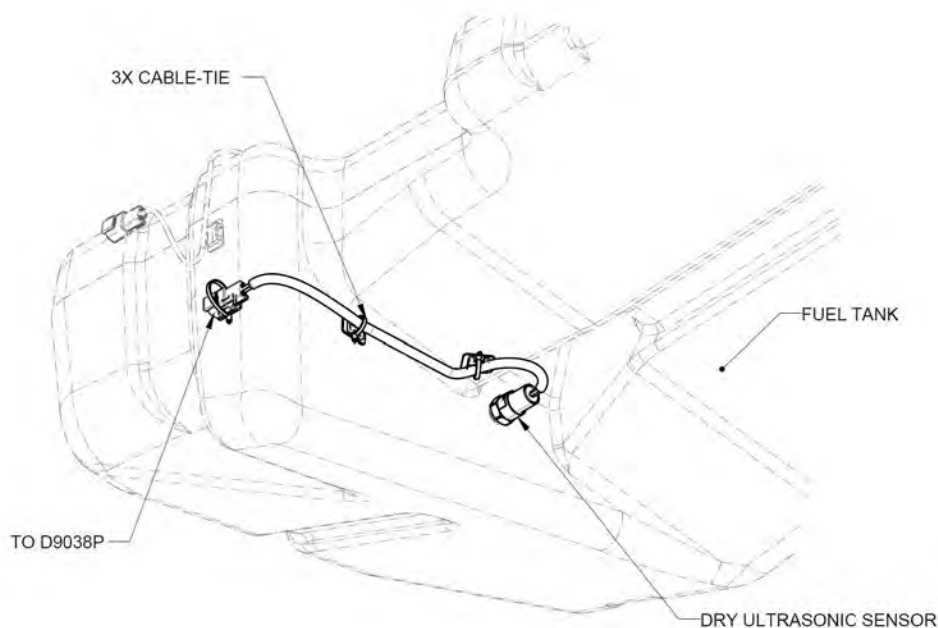

FIGURE 13-45
4. Remove 3X CABLE-TIES along the Dry Ultrasonic Sensor Installation. (See Figure 13-45.)